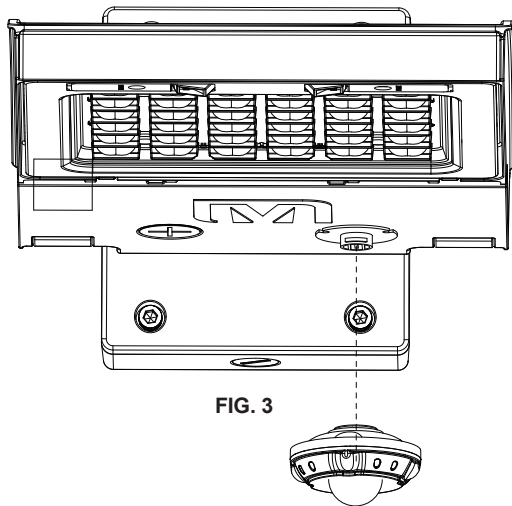

FIG. 3
3. Plug the c-Max™ control node into the USB-C receptacle. (See Fig. 3)